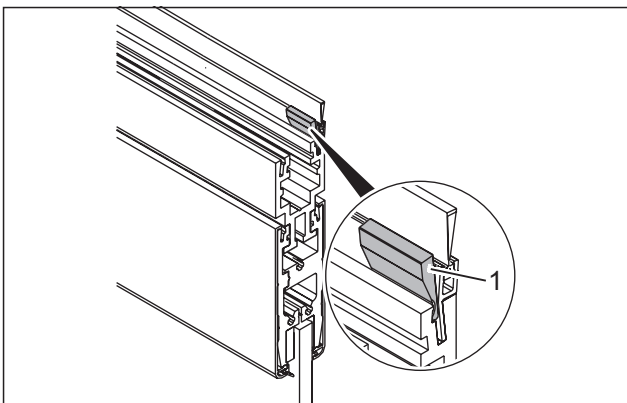

Fig. 37 Wedging the brush seal
6. Wedge the brush seal (Fig. 37/1).